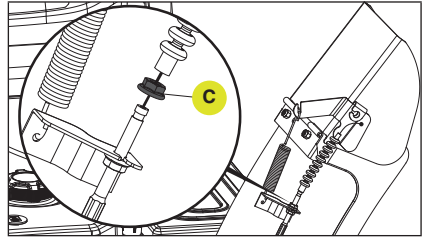

Figure 80
- Slide back the rubber boot and completely loosen the top nut (C) on the end of the cable as shown so you can slide the cable out. (Fig. 80)